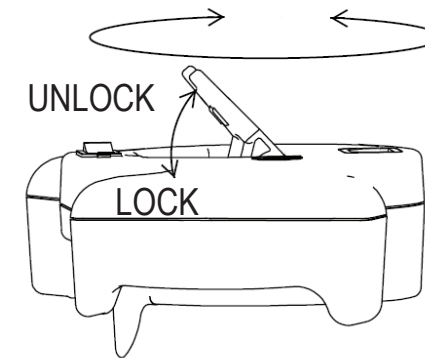

Figure 7
2. Adjust angle by rotating Head Index Latch upward (Figure 7). Position handle in desired location (180 Degrees total rotation).